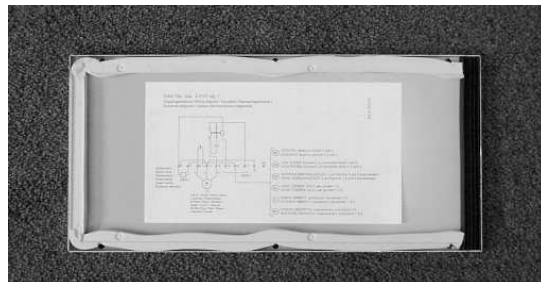

Figure 4
5. Connect the fan heater and select the fan speed in accordance with the wiring diagram on the cover. See Figure 4 or Appendix D.